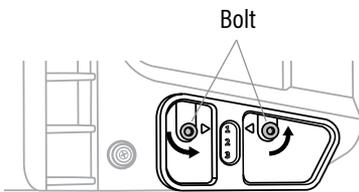

Fig. 7A
- In practice, when working on flat surfaces, it is common to keep the skid shoes in "1" position with the impeller housing close to the ground. (Fig. 7A)